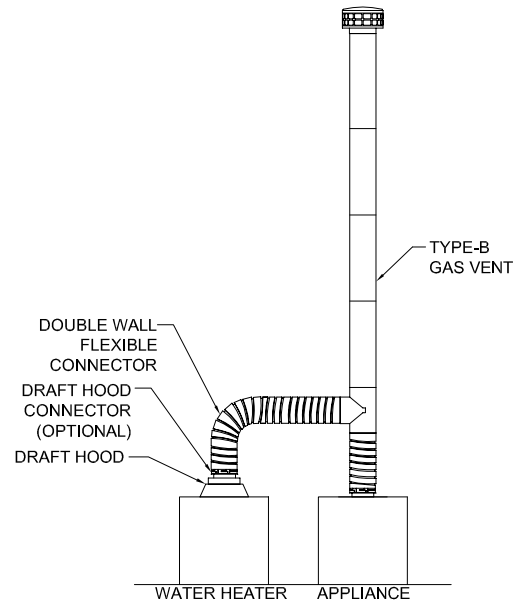

FIG. 5
- Multiple appliances (See **FIG. 5**).